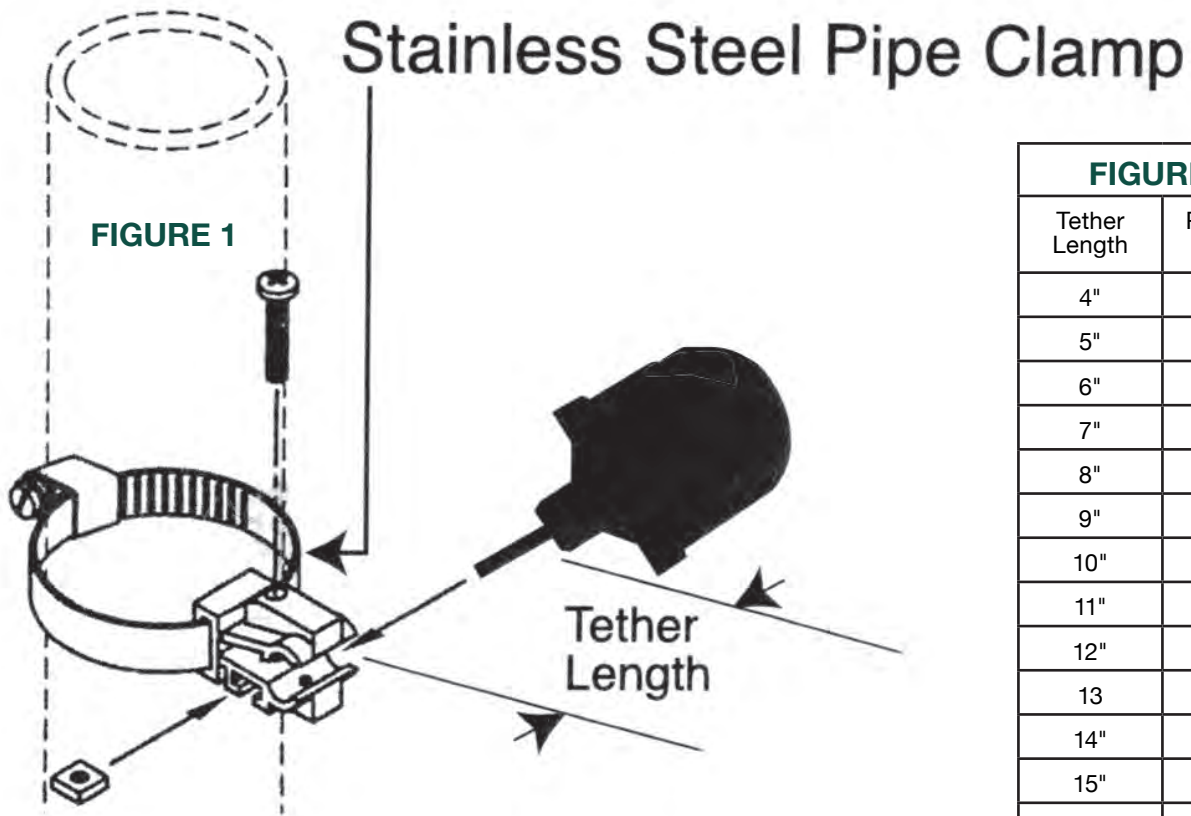

FIGURE 2
1. Determine desired cord tether length . See Figure 2.
Use Figure 2 as a guide and test system by filling tank and cycling the system to achieve actual desired pumping range.